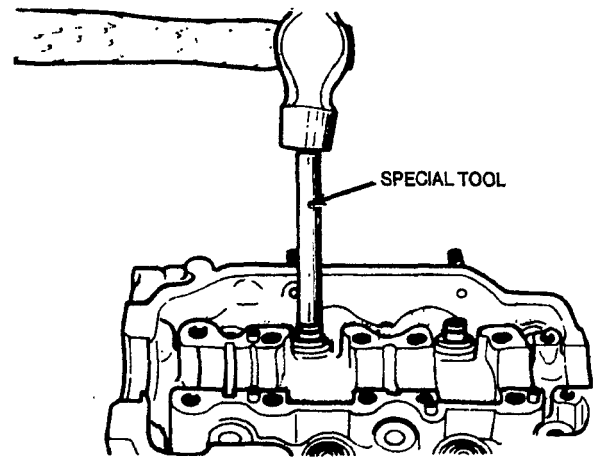

FIGURE 9-20. REMOVING THE VALVE GUIDE
1. Heat the cylinder head up to about 482°F (250°C). Insert the bar of special tool "Valve Guide Installer" into the valve guide and drive out the guide towards the bottom of the head (Figure 9-20).